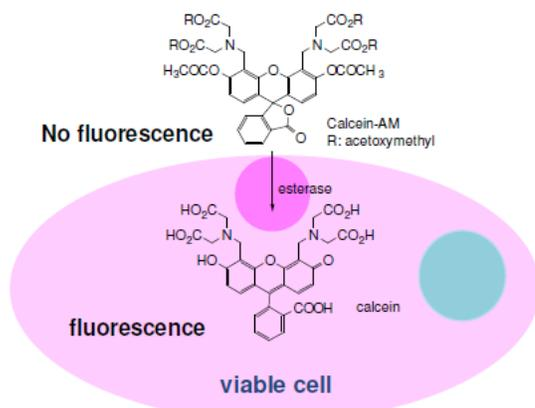

Fig. 18 Cell viability detection mechanism with CCK-F
**A:** Calcein-AM, which contains an esterol in its structure, is hydrolyzed by esterase after passing through the cell membrane and form the fluorescent dye Calcein as indicated in Fig. 18. By measuring the amount of fluorescence, it is possible to determine the number of presented cells. In addition, Calcein has low permeability across the cell membrane, so it does not leave the cell easily.